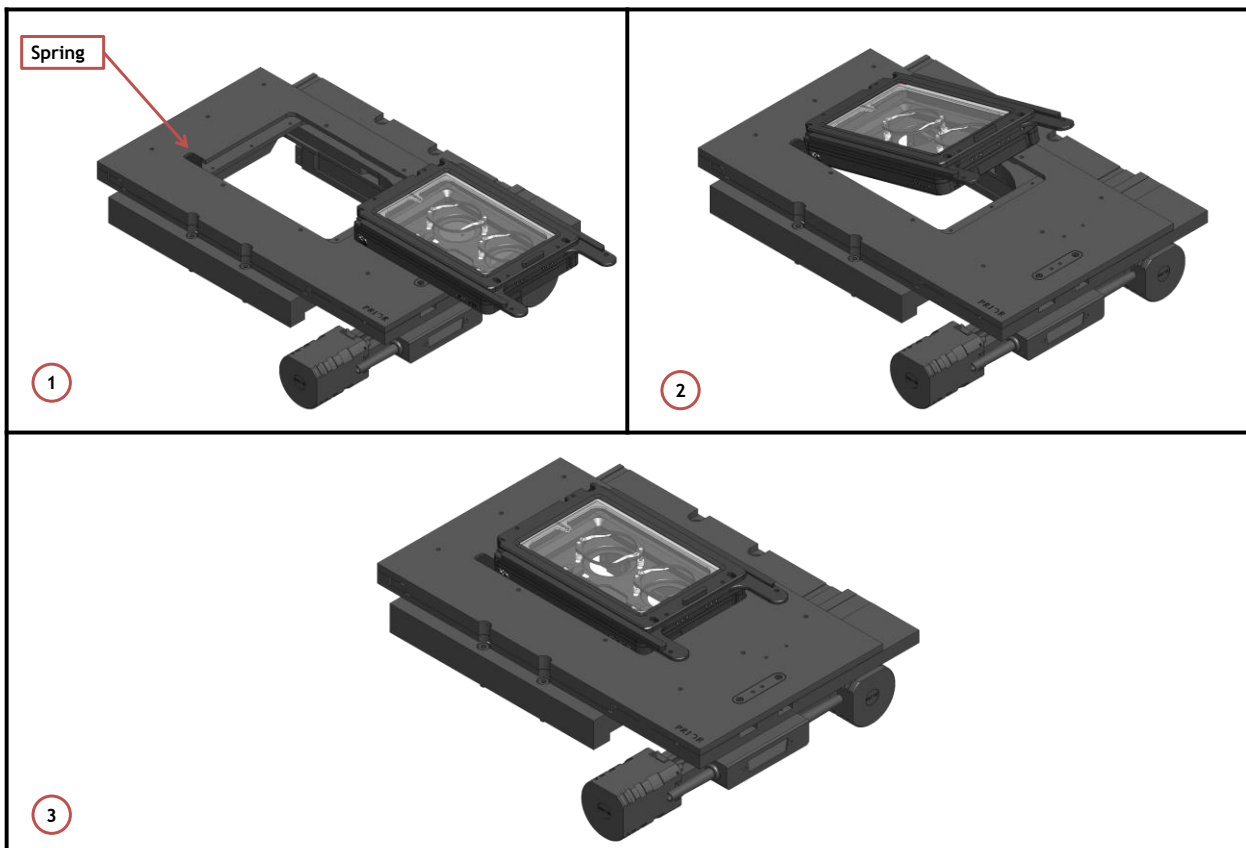

Figure 23. Connection of the Chamber with XY Stage
H301-PRIOR H117 fits on the XY Stage without any screws. To fix the chamber on the stage, follow the steps shown in Figure 23.
1. Place the chamber on the stage (See Image 1 of Figure 23).
2. Incline the chamber and slide it in direction of the spring until it snaps into the housing. (See Image 2 of Figure 23).
3. Image 3 of Figure 23 shows the chamber fitted on the XY Stage.